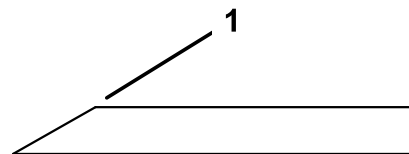

Figure 38
1. Use a file to sharpen the cutting edge at both ends of the blade (Figure 38).